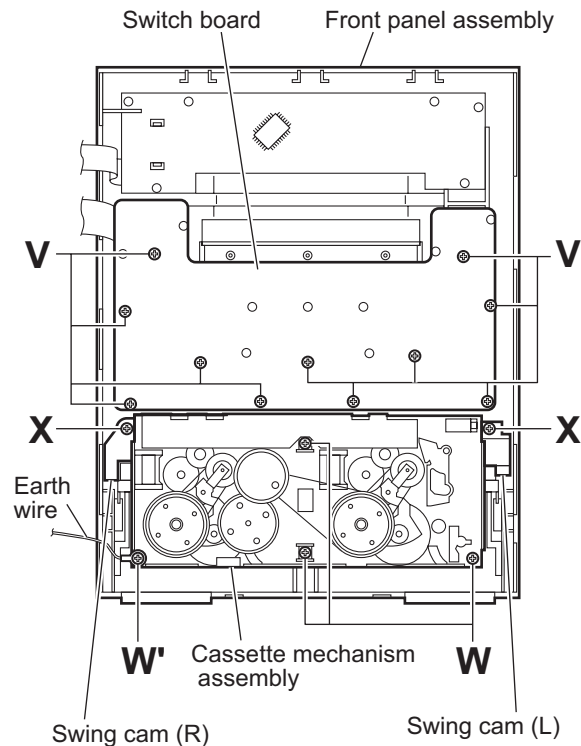

Fig.24
- From the inside of the front panel assembly, remove the eleven screws **V** attaching the switch board. (See Fig.24.)
(See Fig.24)